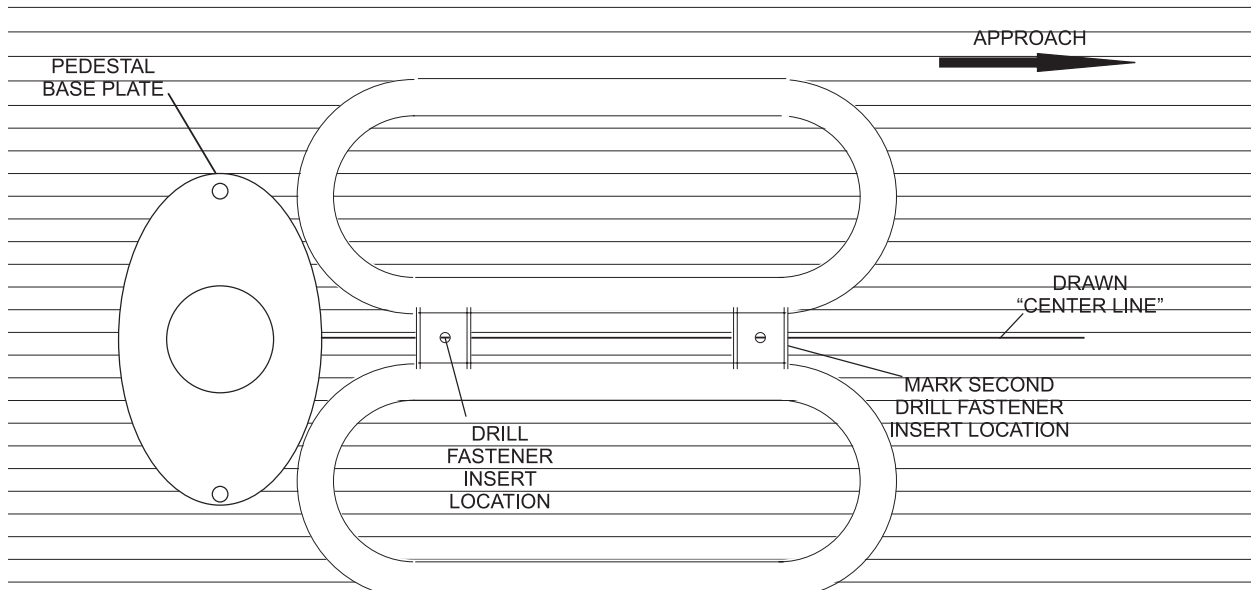

Figure 3
- Center the ball rack on the “Center Line” drawn earlier and align the first ball rack mounting hole with the mark made previously, then use ball rack as a template to mark second mounting hole on the “Center Line”. Refer to *Figure 3*.